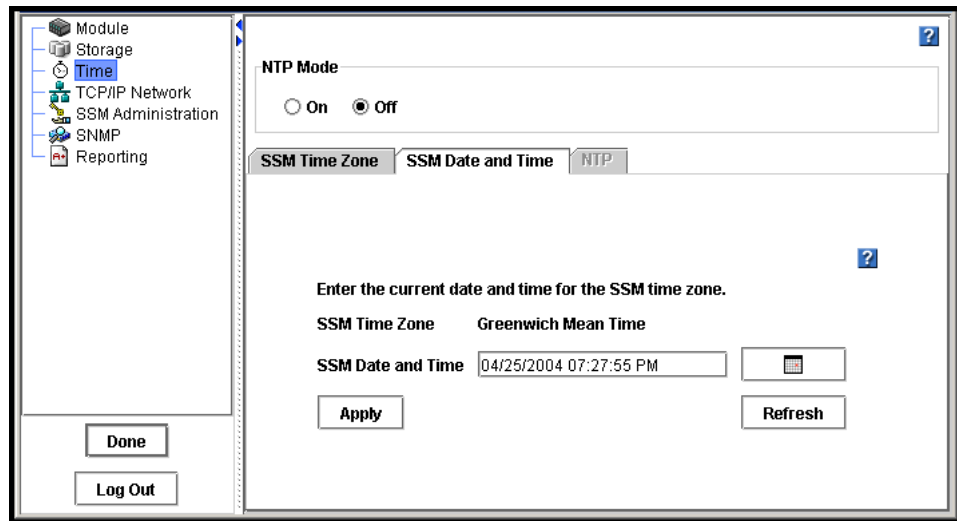

Figure 92. Setting the SSM Date and Time
2. Click the SSM Date and Time tab to bring it to the front, shown in Figure 92.